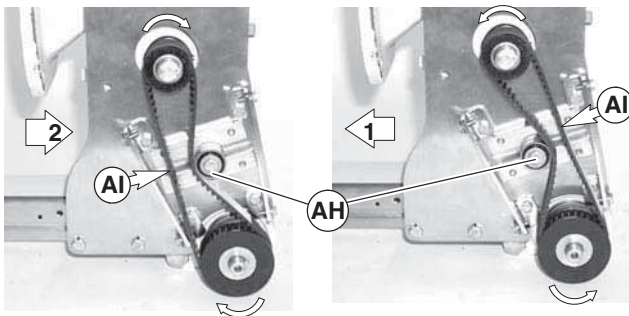

Figure 8
2. Depending on conveyor belt travel (direction 1 or 2 of Figure 8), locate timing belt tensioner (AH), as shown. Do not tighten tensioner screw.
5. Tension timing belt to obtain 1/8" (3 mm) deflection for 1 lb (4.3 N) of force at timing belt mid-point (Figure 8, item AI). Tighten tensioner screw to 38 ft-lb (51 Nm).